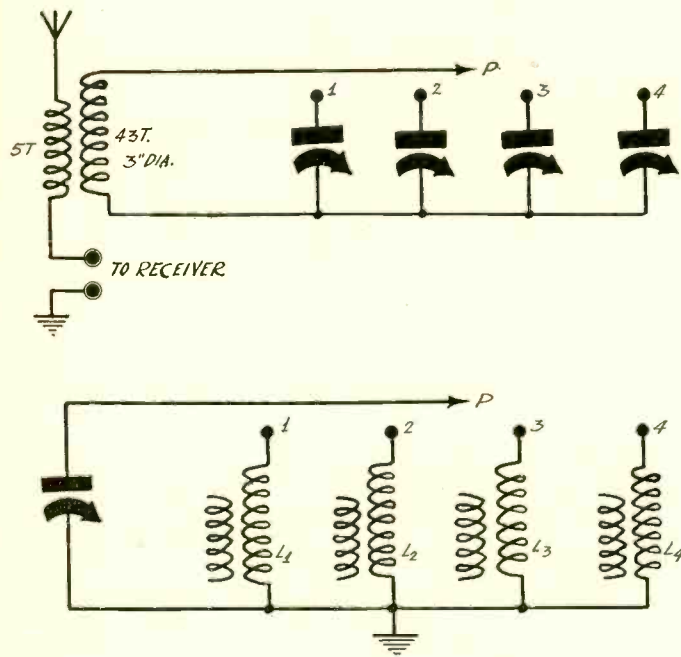

Fig. 2 Upper
In Fig. 2 is shown the connection of the trap circuit for testing the equality of the condensers in a four-section gang. The primary of the common coil is connected in the antenna circuit directly over the input to the broadcast receiver. A suitable coil is one wound with 43 turns of No. 24 D.C.C. on a 3-inch diameter, the primary having five turns on the same form and about half inch from the secondary. By means of the flexible lead terminating in P, each of the condensers is connected in the trap in turn and a calibration curve, or log, made for each.
Fig. 3 illustrates the arrangement of the single condenser, which may be one of the gang in Fig 2, and four coils in a receiver. The secondary windings to be tested in position are numbered from (1) to (4) and the flexible lead terminating in P is used to pick up one at a time. Again a tuning curve, or log, is made for each coil. When the test condenser is put across a coil there should be no other condenser across it, except the inevitable distributed capacity.
If it is desired to avoid even this error the circuits formed in Fig. 3 may be used as trap circuits just as in Fig 2, but this requires an auxiliary receiver for detecting the signals and finding the resonance points. It is much more convenient to use the receiver under test as suggested in the preceding paragraph.